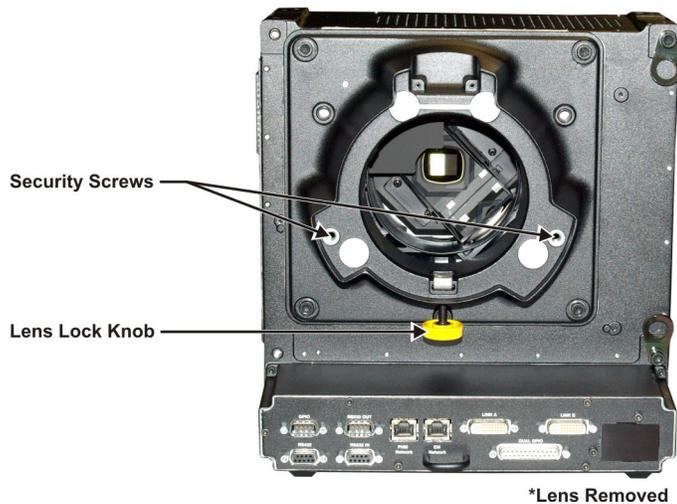

Figure 5-1 Lens Mount
2. Remove and retain the (2) security screws from the lens mount, see **Figure 5-1**.
4. Fasten the security screws (*Figure 5-1*). **NOTICE:** *Security screws MUST be installed.*